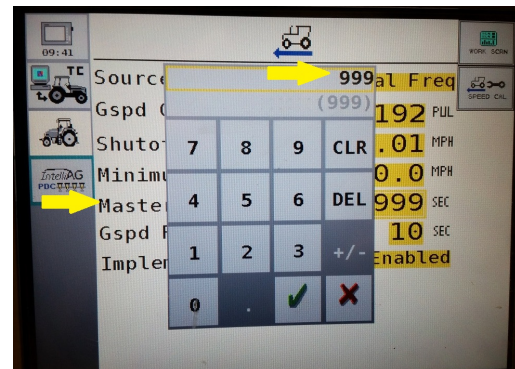

Figure 58
Step 14. Before returning to **Main Work Screen**, select **Master SW Timeout** and change to 999 seconds if it is not. (Figure 58)